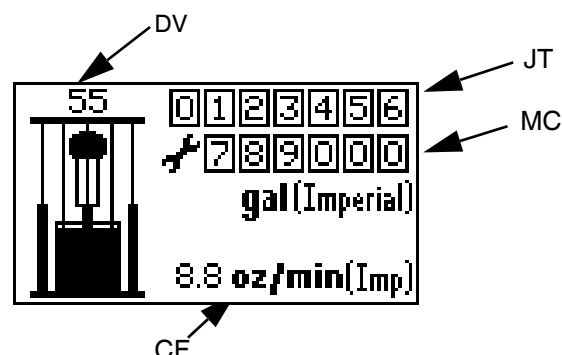

FIG. 4: Run Mode Screen
3. The Splash screen (FIG. 3) will flash on while the progress bar fills from left to right. It will then go directly to Run mode (FIG. 4).
See FIG. 2 and FIG. 4.
2. While in Prime Mode, the job total counter (JT) is blank and will not count. However, the maintenance counter (MC) will continue to decrement.
3. When a new drum is installed, press and hold  while in Prime Mode to reset the drum volume remaining (DV) to the drum fill volume (DF).
4. To exit Prime Mode, press . The Prime symbol will disappear and the LED will stop flashing; the screen will return to Run Mode (FIG. 4).
**NOTE:** If a key is not pressed within one minute of entering a setup screen, the system will return to Run Mode (FIG. 4).
- a. Press and release  to enter Diagnostic Mode from Run Mode (FIG. 4).